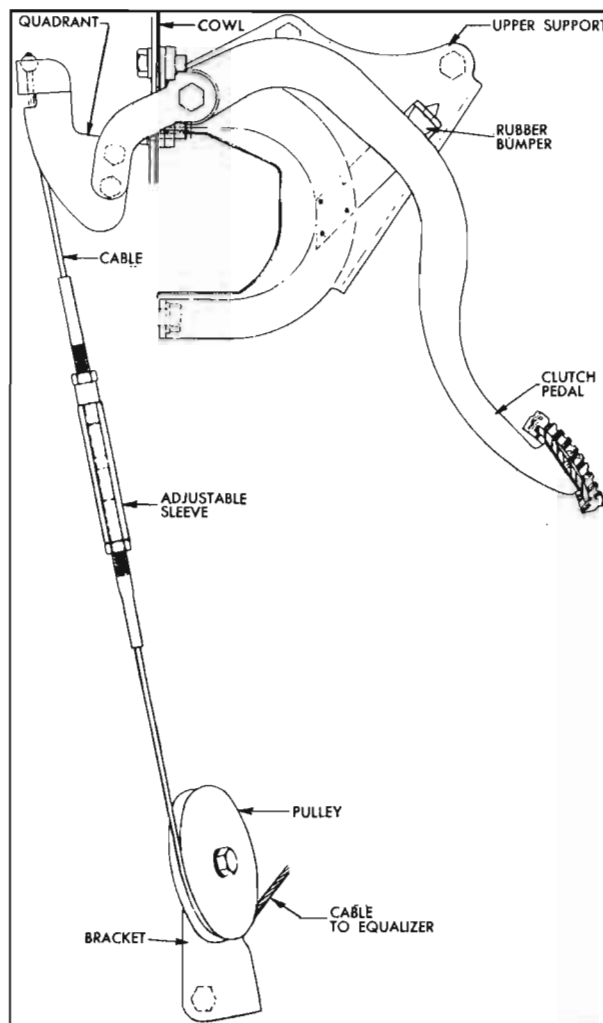

Figure 4-3—Upper Clutch Release Mechanism (from Side)
adjustable bumper support. The portion of the pedal beyond the pivot projects through the cowl where a cable quadrant is bolted to it. As the pedal is depressed, the cable quadrant and cable are raised, causing a release equalizer to turn. See figure 4-3. This rotation of the equalizer pulls the clutch release rod to the rear which in turn pulls the clutch yoke rearward to disengage the clutch.
10. Check cable pulley for alignment with both upper and lower portions of cable. If pulley is not aligned, loosen mounting bolts slightly and align. Tighten bolts securely. See figure 4-3.